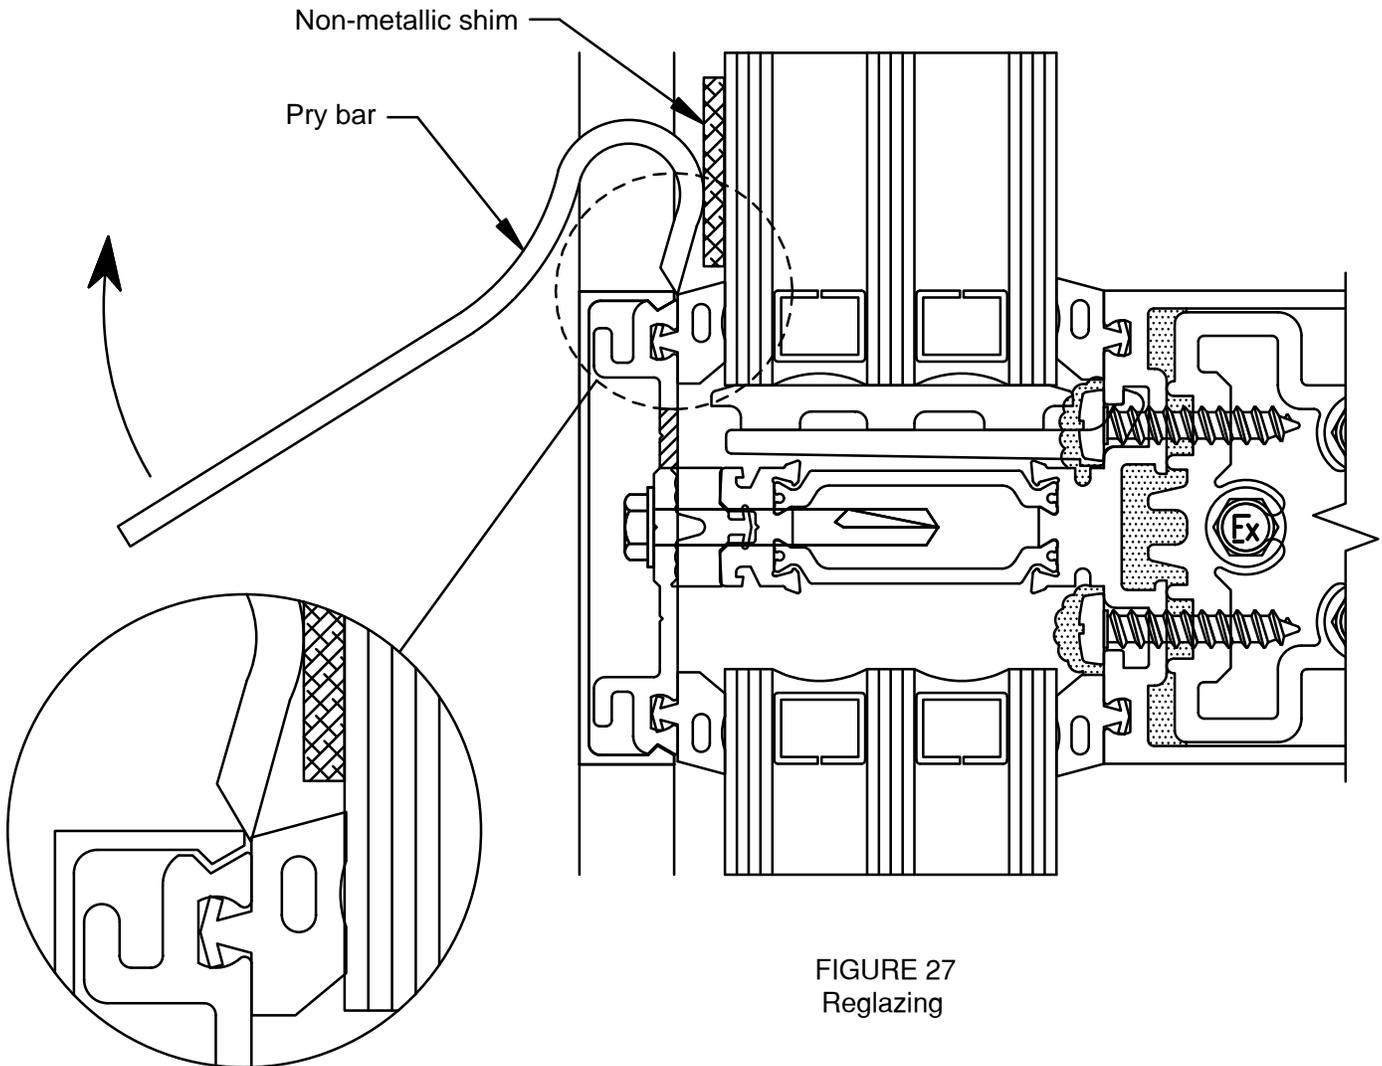

FIGURE 27
- E.1 Reglazing must be done from the exterior. Carefully remove face covers surrounding the lite of glass to be deglazed. SEE FIGURE 27.